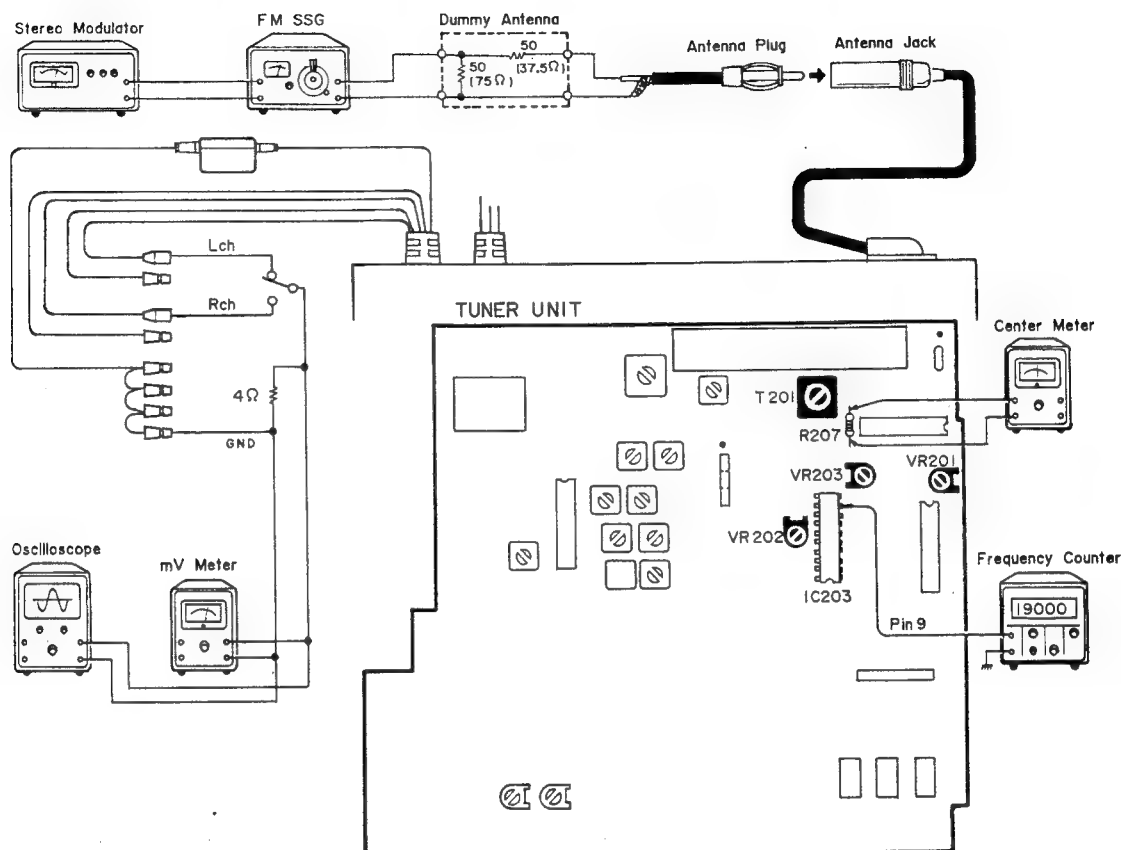

Fig. 8
• Connection Diagram (Show in Fig. 8)